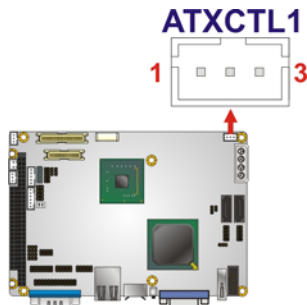

Figure 3-3: ATX Power Control Connector Location
- CN Location:** See Figure 3-3